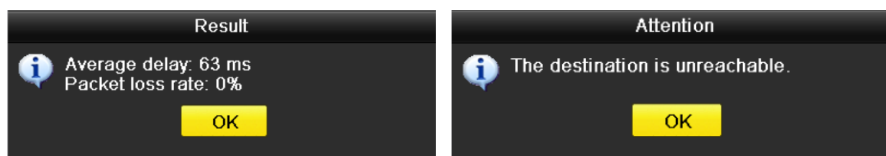

Figure 12-32 Testing Result of Network Delay and Packet Loss
Step 4 Click **Test** button to start testing network delay and packet loss. The testing result pops up on the window. If the testing is failed, the error message box will pop up as well. Refer to Figure 12-32.